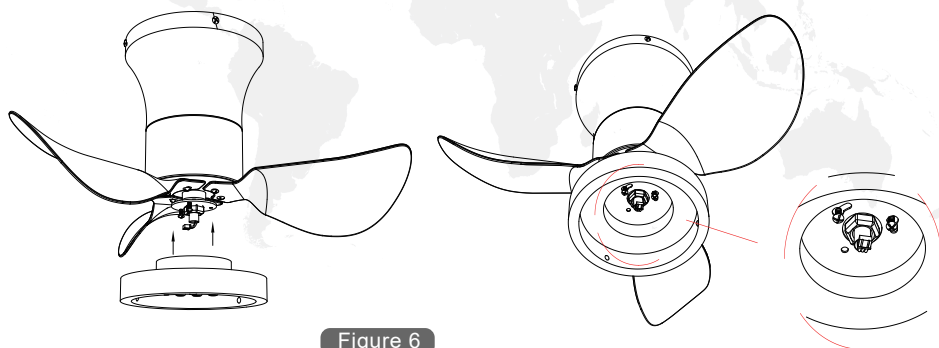

Figure 6
⑥ Align the disc with the screw and snap it in, and tighten the screw. (Figure 6)